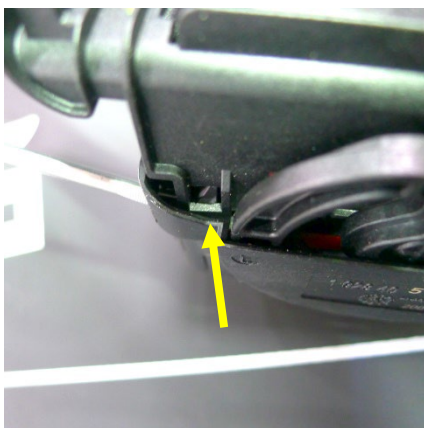
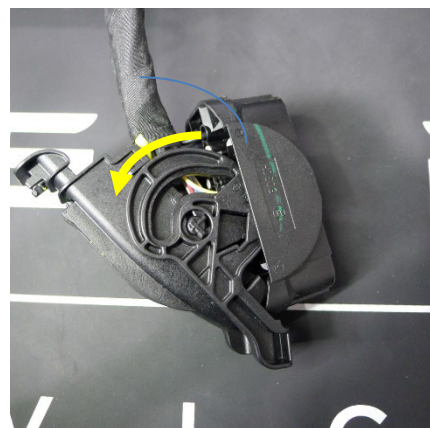

Figure 16
Figure 17
18. Release the tabs (x2) that attach the rear cover to connector X151 (Figure 16), swing the rear cover out (Figure 17), and then remove the rear cover from the connector.